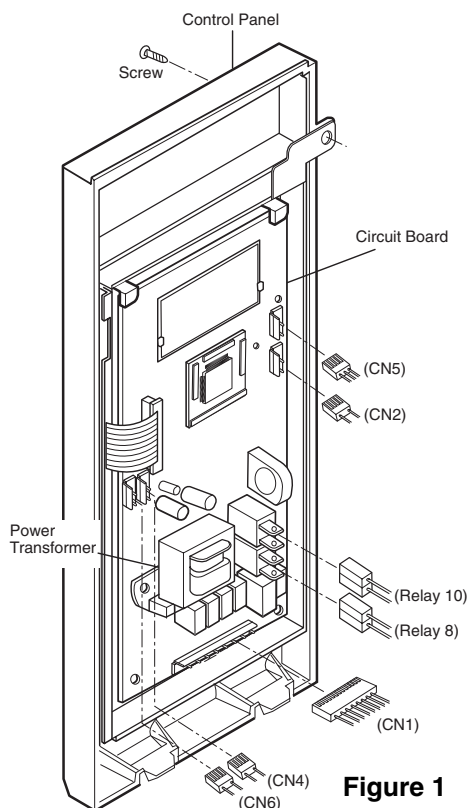

Figure 1
A. REMOVING POWER AND CONTROL CIRCUIT BOARD (Figures 1, 2 and 3)
- (1) Remove a screw securing the control panel assembly to the oven cavity.
- (2) Remove the control panel with pushing it upward.
- (3) Remove the five connectors (CN1, CN2, CN4, CN5, CN6) and wire leads (Relay8, Relay10) from the circuit board.